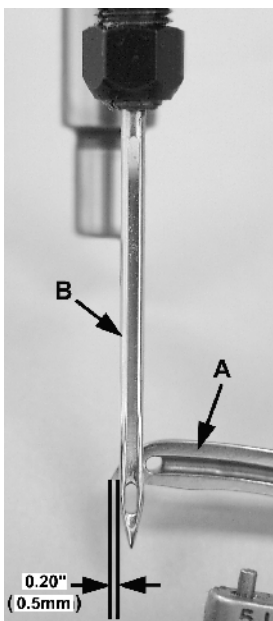
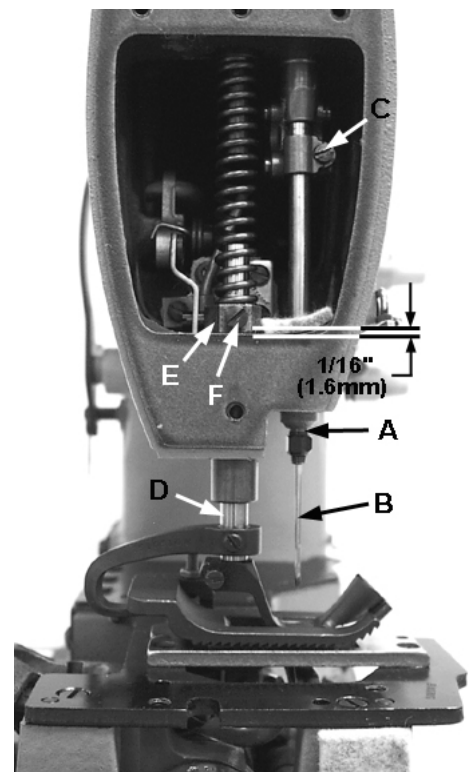

Fig 8
Fig 15
Turn handwheel to position point of looper (A, Fig. 8) 0.20" (0.5mm) past the left side of needle (B). At this time the top of the eye of the needle (B) should be even with the under side of the looper (A). To make adjustment, loosen screw (C Fig. 15) and move needle bar (A) up or down as required.
Height of presser bar (D, Fig. 15) is set correctly if it is possible to remove the presser foot when the foot lifter lever, located at the back of the machine and extending above the upper crank chamber cover is fully actuated (pulled to the right). There should be approximately 1/16 inch (1.6mm) clearance between lower surface of the presser bar connection and guide (E) and bottom surface of head opening in the bed when foot lifter lever is released and presser foot lying flat on the throat plate with feed dog below throat plate.